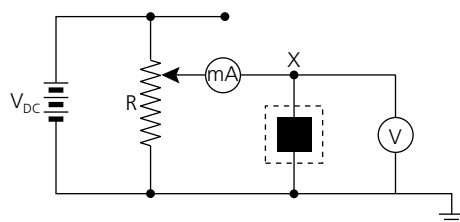

Figure 23.29
- **27 A student uses the circuit of Figure 23.29 to obtain the data table below. Plot an I-V curve from the data.